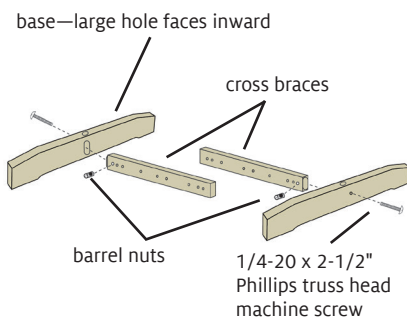

FIGURE 3: ATTACH CROSS BRACES TO BASES
4. Insert a 1/4-20 barrel nut into the hole closest to the tenoned end of a cross brace. Using a 1/4-20 x 2-1/2" Phillips truss head machine screw, attach the base to the cross brace as shown in Figure 3. Repeat with the other base and cross brace.